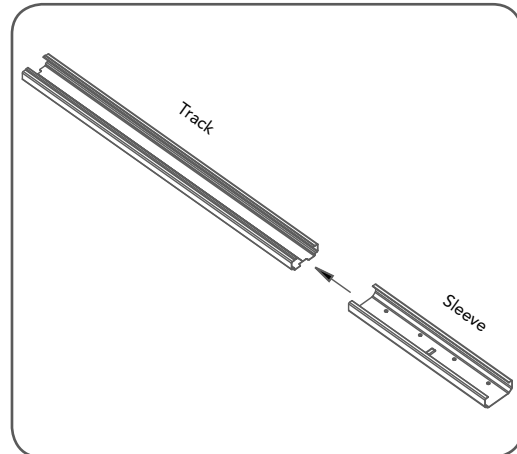

fig 05
- Slide sleeve onto the track section (**Fig. 05**). Connect track by sliding sleeve onto next track section. Tap track assembly on piece of wood until track sections are flush. Repeat with remaining track sections.